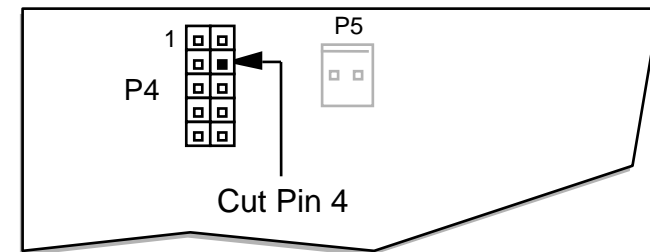

Figure 11
- Locate P4 on the Control board, a 10-pin, dual row (5 x 2) male connector (see Figure 11). P4's pins are numbered left to right, top to bottom (pin 2 is to the right of pin 1, pin 3 is below pin 1, etc.).